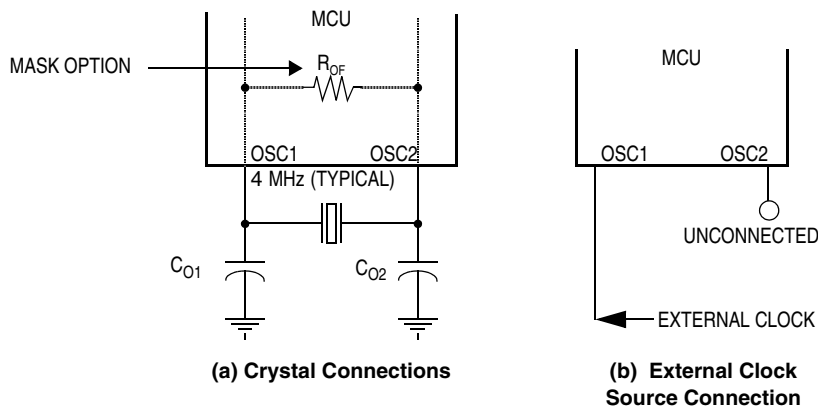

Figure 1-4. Oscillator Connections
1. A crystal or ceramic resonator as shown in Figure 1-4\(a\)
2. An external clock signal as shown in Figure 1-4\(b\)
The circuit in Figure 1-4\(a\) shows a typical 2-pin oscillator circuit for an AT-cut, parallel, resonant crystal. The crystal manufacturer's recommendations should be followed, since the crystal parameters determine the external component values required to provide maximum stability and reliable startup. The load capacitance values used in the oscillator circuit design should include all stray capacitances. The crystal and components should be mounted as close as possible to the pins for startup stabilization and to minimize output distortion. An internal startup feedback resistor of R_{XOF} between OSC1 and OSC2 can be selected as a mask option.
An external clock from another CMOS-compatible device can be connected to the OSC1 input, with the OSC2 output not connected, as shown in Figure 1-4\(b\). This configuration is possible regardless of the oscillator setup.